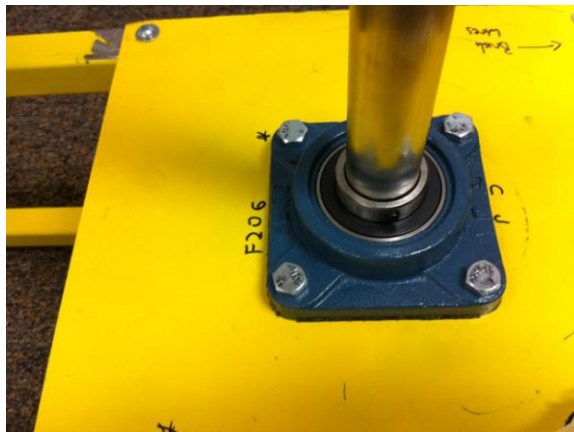

Figure 37 – Top flange bearing bolted in place
- c. Bolt the flange bearing in place and tighten the two lock screws on the collar, as shown in Figure 37.